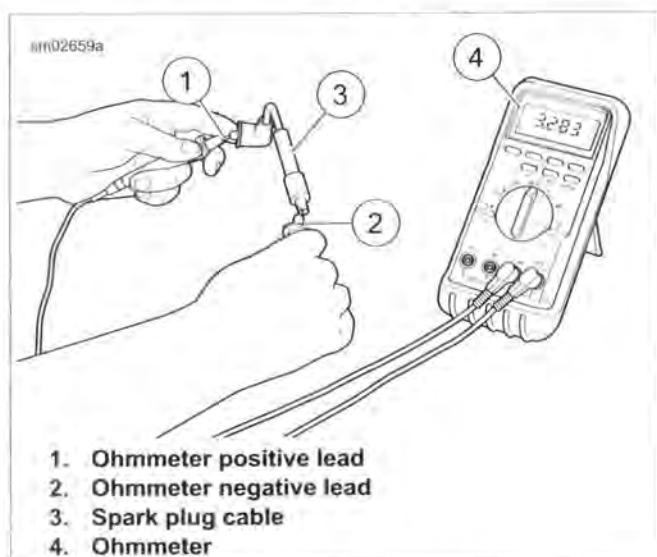

Figure 7-8. Testing Resistance
3. See Figure 7-8. Check spark plug cable resistance with an ohmmeter. Replace cables not meeting resistance specifications. Refer to Table 7-5.